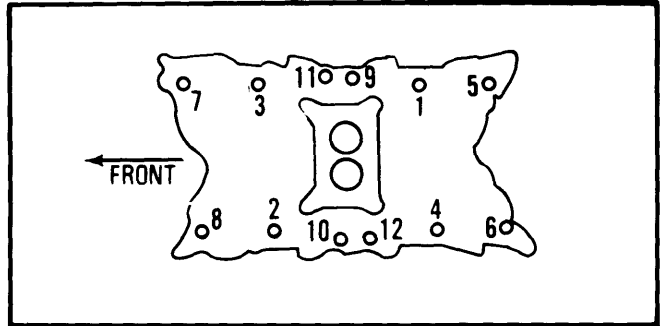

Fig. 1 Intake Manifold Tightening Sequence
3) Place manifold in position on engine. Tighten bolts to specification in two steps. Tighten bolts in sequence shown in illustration (see Fig. 1). After completion of intake manifold installation, retighten manifold to specification in sequence shown in illustration, with engine at normal operating temperature.